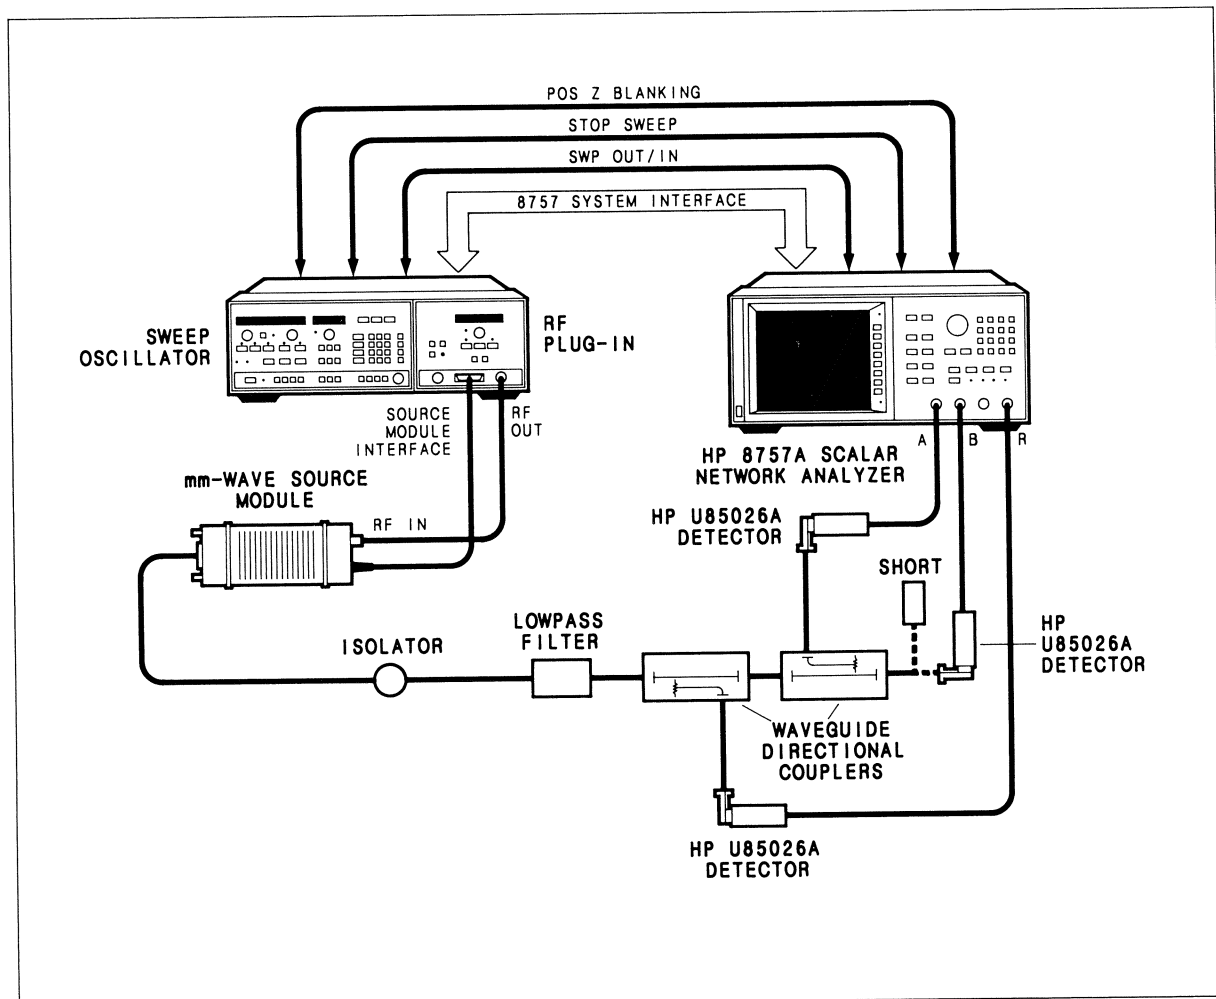

Figure 3-1. Return Loss Performance Test Setup
1. Connect equipment as shown in Figure 3-1, with the short connected to the coupler, and allow the equipment to warm up for 30 minutes.